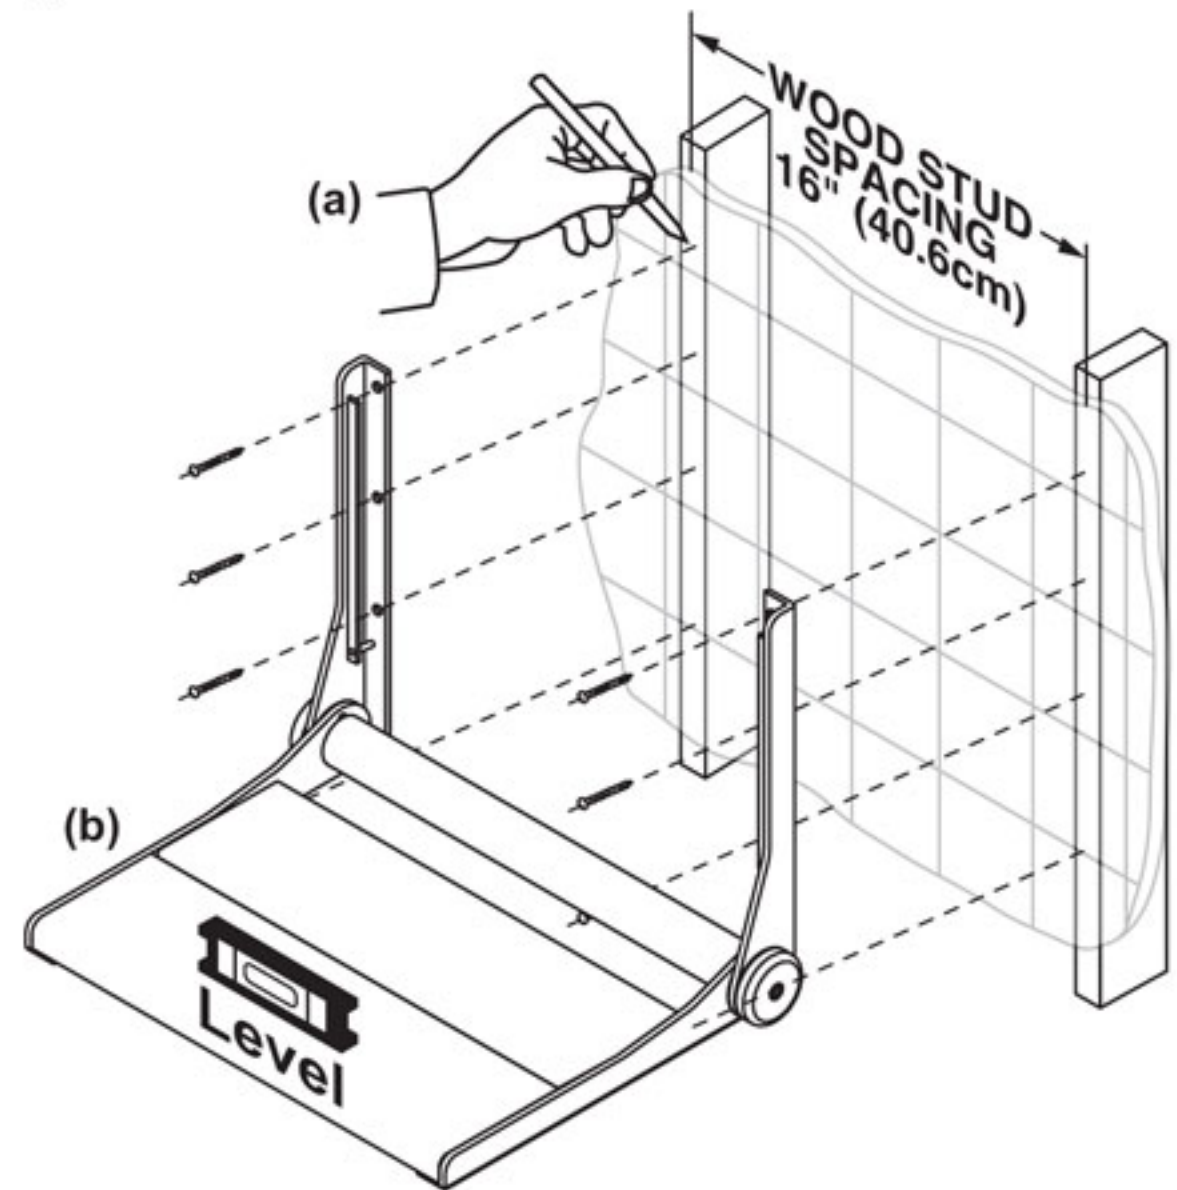

Figure 2.
A2. Notch the tile accurately with a center punch as shown in **Figure 2**. **NOTE:** A light tap is all that is required for punch to make notch.
3. Fabricate a support frame structure from suitable wood pieces as shown in **Figure 2**. Support frame width (D) should fit snugly within wall studs. Support frame height (E) should be from 24-32" (61-81cm) high or more, depending on material and stiffness of wall studs. Locate top cross member (F) to position in line with top hole on the wall bracket when seat is at install height (H). Lower cross member (G) should be spaced at C = 14.125" (37.465cm) center to center from top cross member (see Page 4 for dimensions of 2 center cross members). Use a generous quantity of wood screws and glue to hold the support frame together as shown. See alternative to support frame as shown in **Figure 3**.